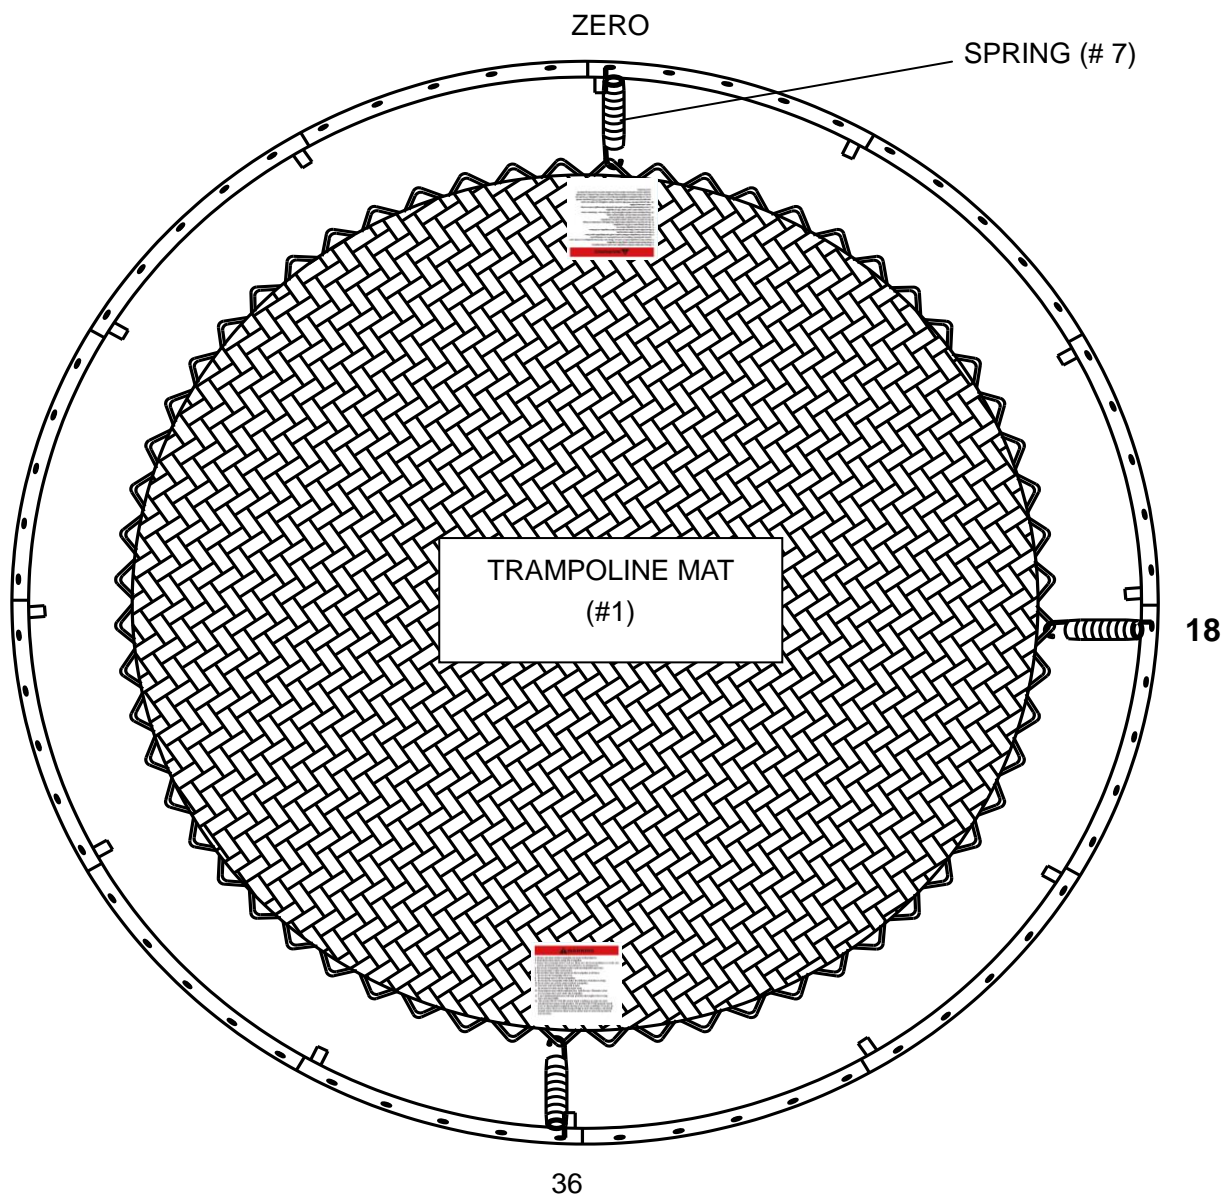

FIGURE 9
- D. From point 36, count back 18 holes on the Top Rail and Triangle-Rings, you should be at point 18. Attach a spring at this point as shown in FIGURE 9.